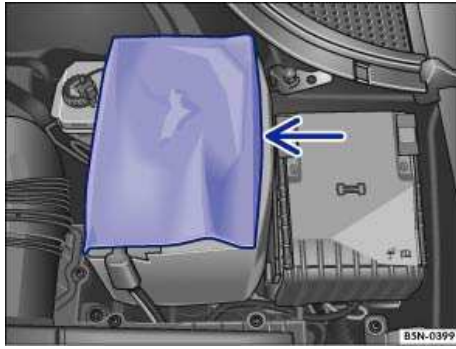

Fig. 175 In the engine compartment: Open the sleeve covering of the vehicle battery.
- *With a soft cover* ⇒ fig. 175: Open the sleeve cover to the side.